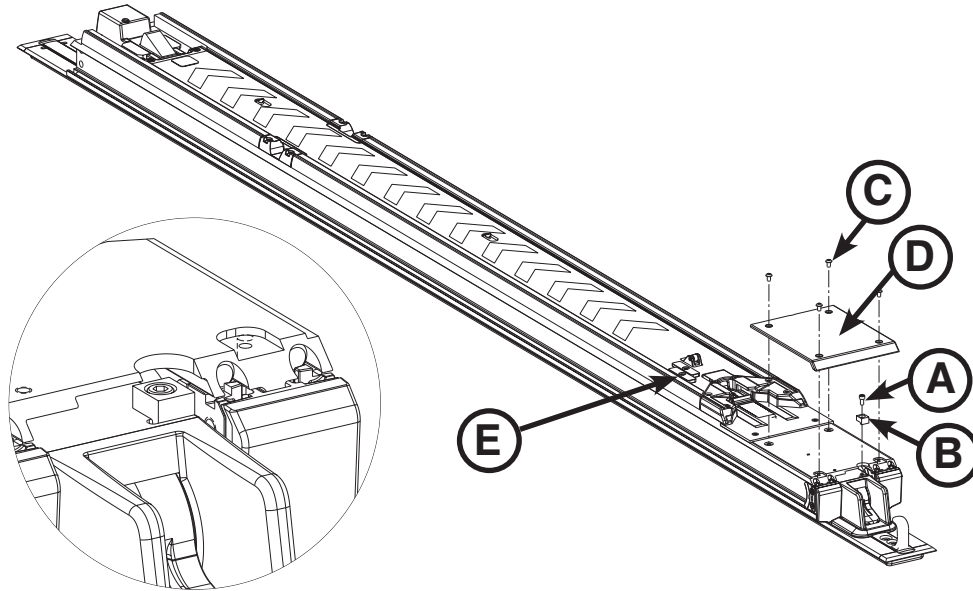

Figure 19: Attach the Foot End Transfer Wear Pad
4. Installer 1 (Foot End) lifts the transfer assembly and slides the transfer lock triggers (E) (Figure 19) toward the foot end of the transfer to disengage the transfer locks. Keep the transfer lock triggers pulled toward the foot end until the transfer is seated on the anchor as shown in Figure 19. Installer 2 (Head End) slides and centers the open end of the transfer assembly over the rollers in the anchor assembly.
Note: You may notice slight resistance while rolling over the second set of rollers; push past the resistance to the position shown in Figure 19.
5. Using a 5/32" hex wrench, install the supplied socket head cap screw (0004-658-000) (A) to secure the supplied trolley magnet activator (6390-0001-106) (B) as shown in Figure 19.
6. Using a T25 Torx driver, install four supplied button head cap screws (0004-665-000) (C) to attach the supplied foot end transfer wear pad (6390-001-225) (D) to the transfer assembly as shown in Figure 19.
7. Slide the transfer lock triggers (closest to the foot end) (E) as shown in Figure 19 toward the foot end of the transfer assembly to unlock.